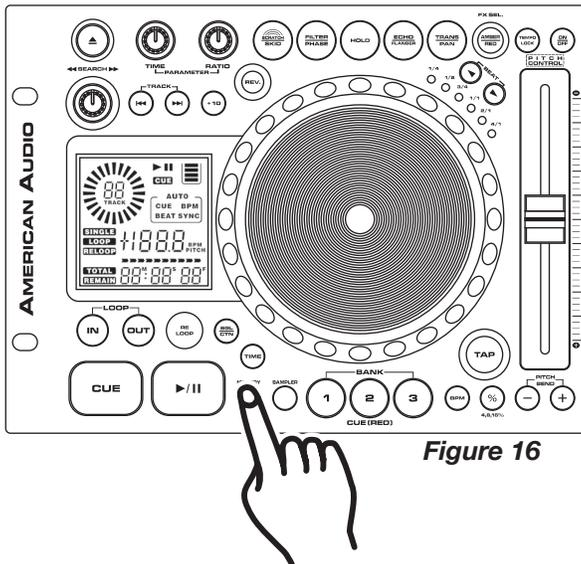
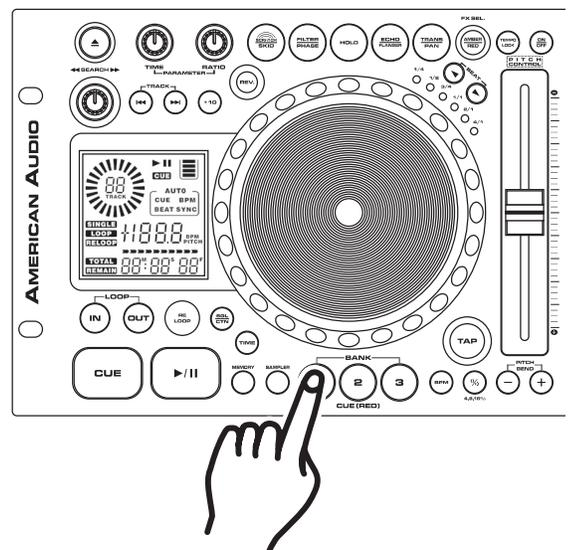

Figure 16
Figure 17
- 1) Create a Cue Point by one of the two means listed on page 18. Press the *MEMORY BUTTON* (31), as in Figure 16. The blue Memory L.E.D. will glow indicating the store memory function has been activated. You may now press any one of the three *BANK BUTTONS* (29) to store your cue point into memory (Figure 17). After pressing one of the *BANK BUTTONS* (29), the corresponding Bank Button L.E.D. will flash. The blue L.E.D. on the the *BANK BUTTON* (29) will turn red and will remain lit indicating either a sample or cue point is stored in memory. The blue Memory L.E.D. will turn off.